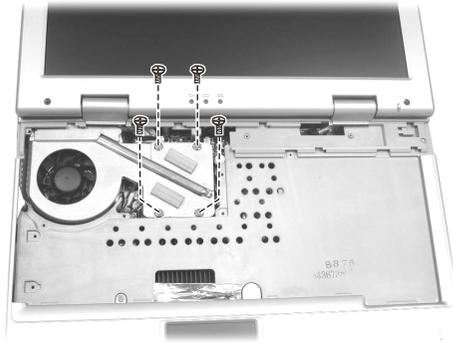

Figure 2-8 Remove the fan's power cord
5. Remove four screws fastening the heatsink. (Figure 2-8)